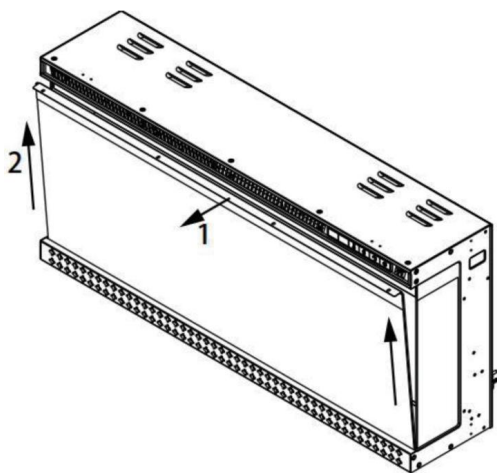

Fig2
- 2.Take and pull up the front tempered glass out off appliance, see Fig.2